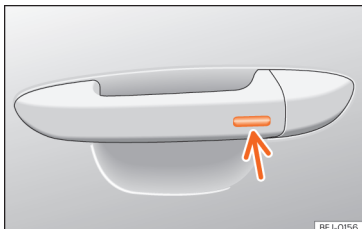

Fig. 97 Door handle: sensor surface.
- Press and hold the locking sensor surface »» Fig. 97 (arrow) on the door handle to close the sunroof. If you release the sensor surface, the closing movement stops.